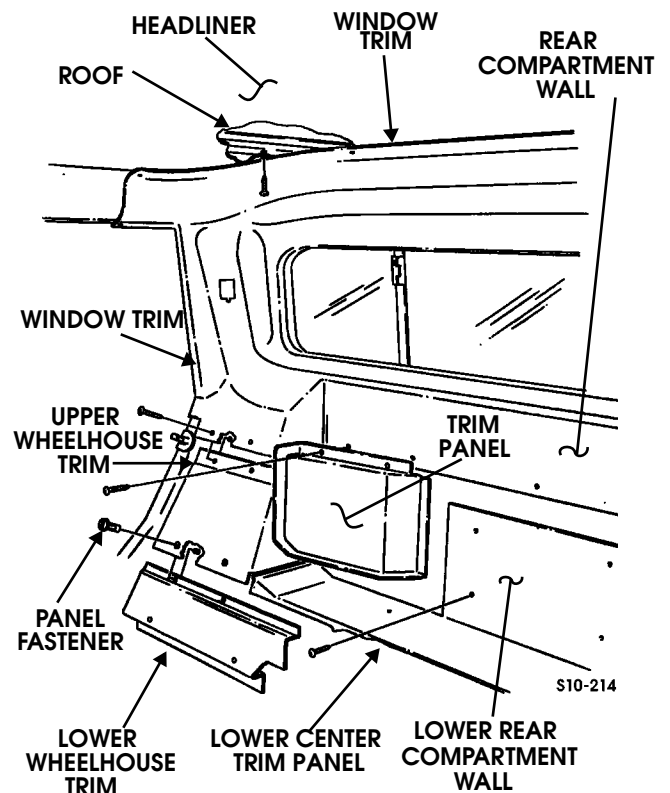

Figure 10-44: Four-Passenger Vehicle Interior Trim Component Identification
11. Remove screw/washer assemblies and trim panel from rear compartment wall (Figure 10-44)
1. Secure headliner to roof with panel fasteners (Figure 10-44).